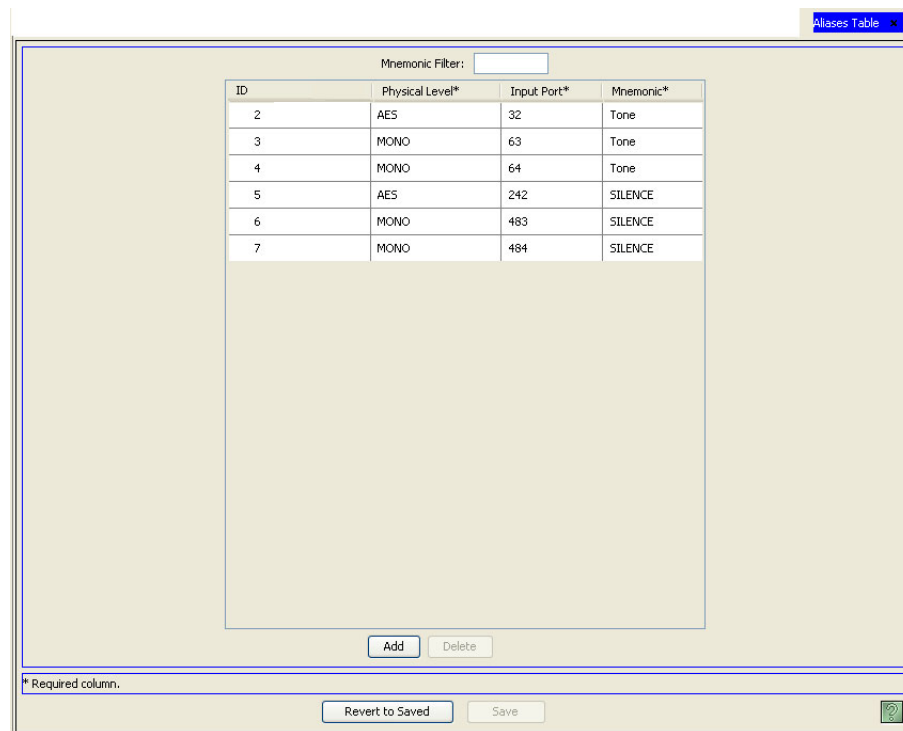

Figure 18-1. Aliases Table
- 2 From the Navigation area, select the 'Views' pane and then 'Aliases'. The 'Aliases' table appears, as shown in Figure 18-1.